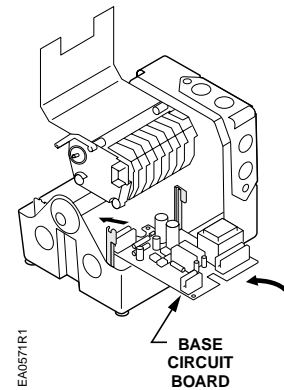

Figure 23.
4. Guide the base circuit board from the switch housing side of the actuator into the bottom of the circuit board mounting bracket. See *Figure 23*.